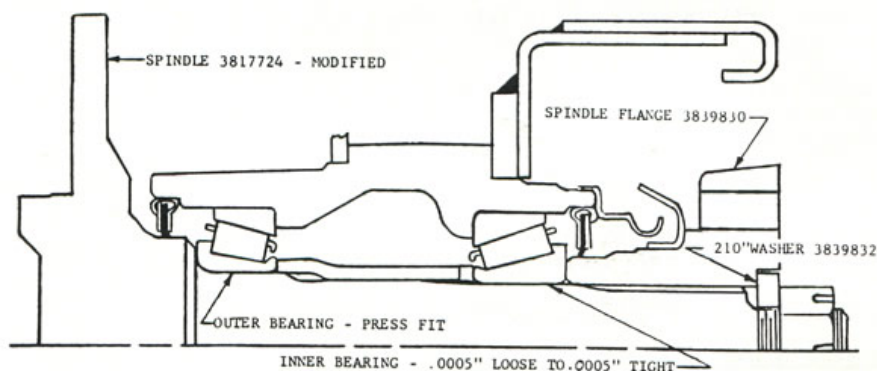

FIGURE 2
- B - From November 2, 1962, to November 19, 1962 production, spindle 3817724 was revised to incorporate an interference fit outer bearing diameter and a .0005" loose to .0005" tight inner bearing diameter. A chamfer was added to the outer bearing shoulder to provide for tool access (Figure 2).
- C - Beginning with November 19, 1962 production, a .210" thick spindle flange washer 3839832 replaced with .140" thick spindle flange washer 3830252, and a new flange assembly 3839830 replaced the old flange assembly 3830253. Drive flange nut torque increased from 50 lb. - ft. to 100 lb. - ft. (Figure 2).
### REAR WHEEL SPINDLE - DESIGN B AND C - FIGURE 2